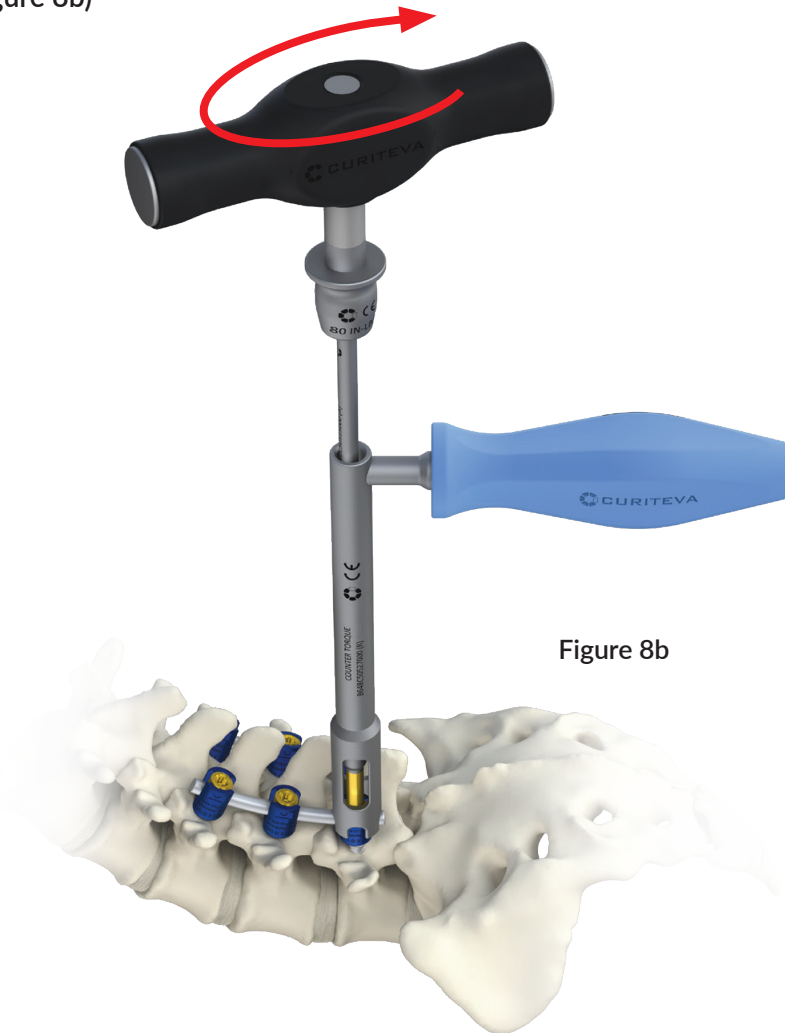

Figure 8b
- Insert the Final Locking Set Screw Driver through the Counter Torque to engage the hexalobe feature of the Set Screw. (Figure 8b)